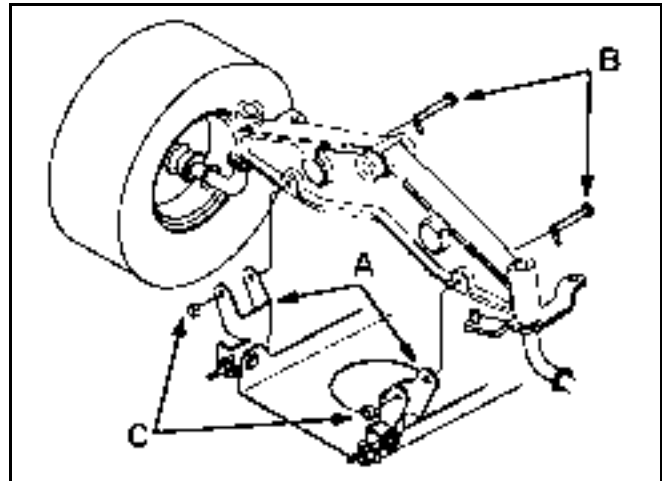

Figure 217
5. Install the mower pivot mount brackets to the front axle with bolts and lock nuts (Figure 217).